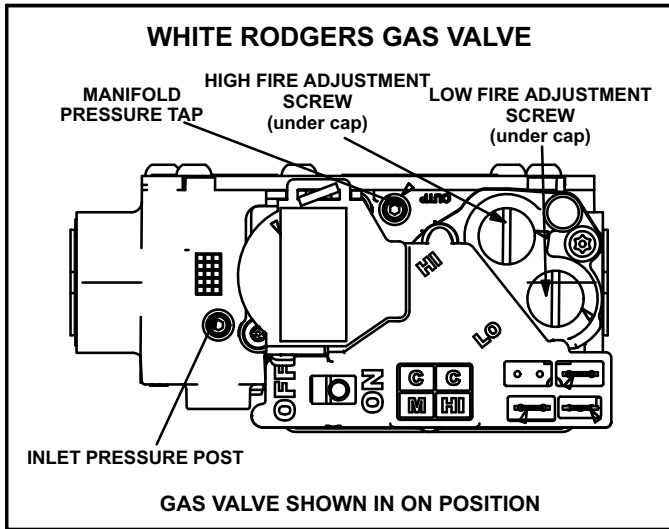

FIGURE 11
The two-stage gas valve (figure 11) is internally redundant to assure safety shut-off. If the gas valve must be replaced, the same type valve must be used.
- 6 - Turn switch on gas valve to **OFF**. Do not force. See figure 11.
- 8 - Turn switch on gas valve to **ON**. Do not force. See figure 11.
- 4 - Turn switch on gas valve to **OFF**. Do not force. See figure 11.
An inlet post located on the gas valve provides access to the supply pressure. See figure 11. Back out the 3/32 hex screw one turn, connect a piece of 5/16 tubing and connect to a manometer to measure supply pressure. See table 10 for supply line pressure.
- 1 - Connect test gauge to manifold pressure tap (figure 11) on gas valve.
- 4 - If necessary, make adjustments. Figure 11 shows location of high fire and low fire adjustment screw.